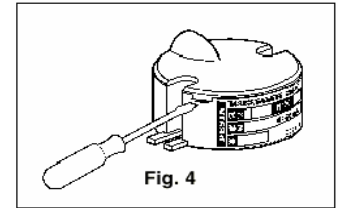
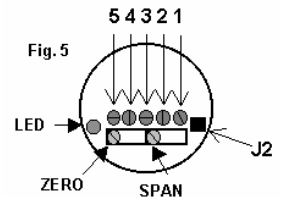

Fig. 4
Fig. 5
VERY IMPORTANT: Check that the temperature probe's measurement range matches the range for which the 405000 is configured. In the event that reconfiguration is necessary see Sections 7 and 8. Open the 405000 by removing the lid (Fig. 4) to access the terminal block. Refer to Fig. 5 and the text below for terminal connection information.
- 1) Remove the 405000 cover (Fig. 4), to access the printed circuit.